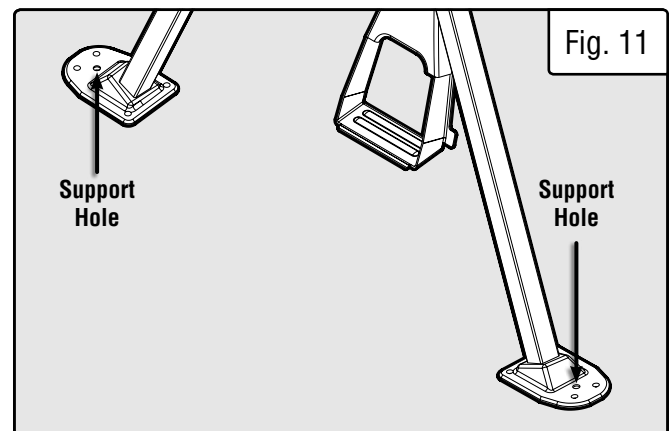

Fig. 11
- When clamping long or large workpieces that may tip over the clamping sawhorse, note that the two front feet have individual holes that can be used to secure them to a surface with fasteners to increase stability (Fig. 11).